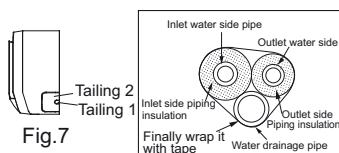

Fig.7
1. When routing the piping and wiring from the left side of the unit, cut off the tailings from the chassis in necessary(Show in Fig.7)